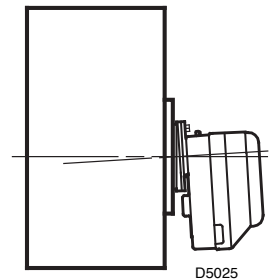

Fig. 5
- › After installation ensure that burner is lightly inclined as in fig. 5.